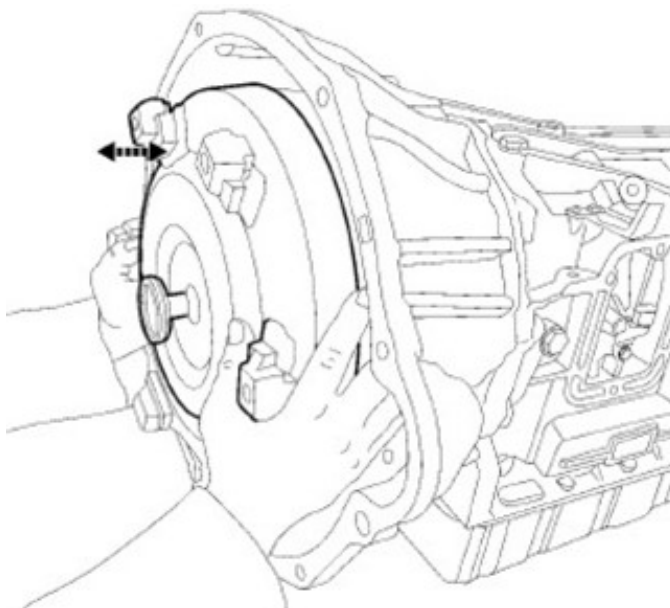

Fig. 2
6. Remove the torque converter from the transmission Fig. 2.
33. Install the torque converter onto the input shaft while applying inward pressure and rotating back and forth at the same time in order to align the input shaft splines and the two teeth on the oil pump drive gear Fig. 2.